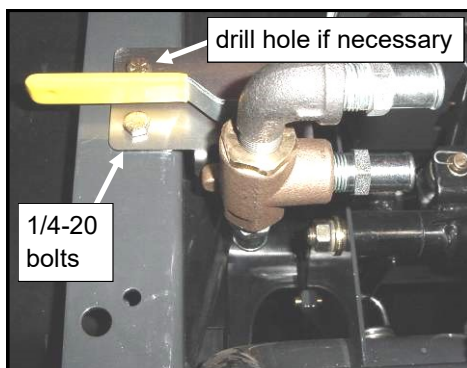

Fig. 3.6 (view from front of vehicle)
3.6 Fig. 3.6 shows the passenger's side underneath the hood. Attach the bracket assembly to the frame of the vehicle as shown in figure 3.6 using two 1/4-20 x 3/4" long bolts and locknuts. For model RTV520, the top hole location indicated in Fig. 3.6 needs to be drilled out. Use a 9/32" drill bit thru this dash support. Double check that nothing on the bottom side will be damaged when the drill bit breaks thru the sheet metal.